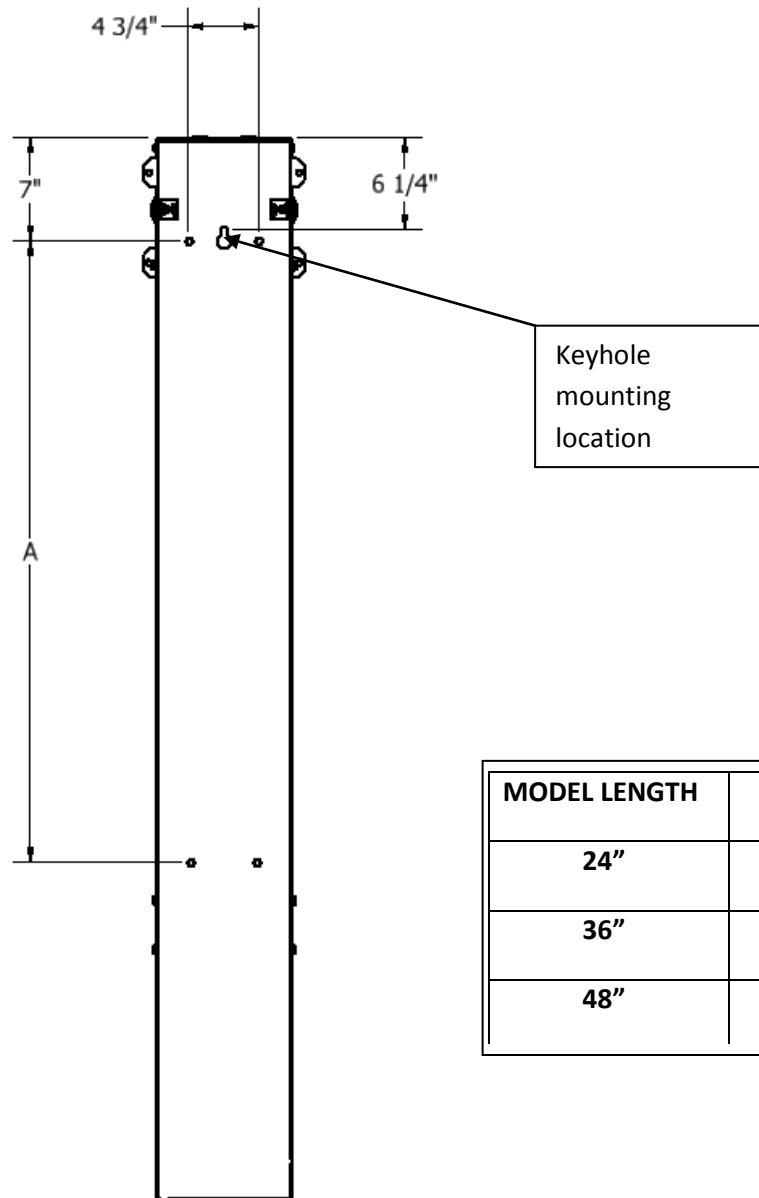

Figure 1
1. The HS583E Curtain/Vent machine is equipped with a key hole slot for easy installation as well as (6) locations to secure unit to a wall.
2. Install **(1) 3/8" X 3"** Lag bolt (supplied) in the wall of the building in the desired location leaving bolt out approximately 1/4". Lag bolt location to be center line of the machine and installed 6 1/4" below the height of the top of the machine. Allow a minimum of 1" clearance above machine from any structure in order to provide adequate clearance for hanging machine on keyhole lag bolt.
3. Hang machine on bolt aligning keyhole slot located near top of the machine. **(Figure 1)**